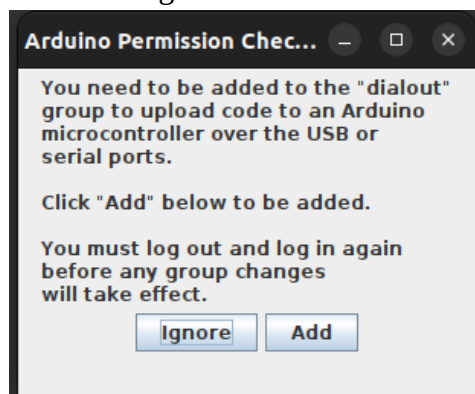

Fig.1
2. Launch the Arduino IDE you shall get following pop-up as fig.1, click add. (to take effect logout from your user account login back to the user account, now it is good to go)